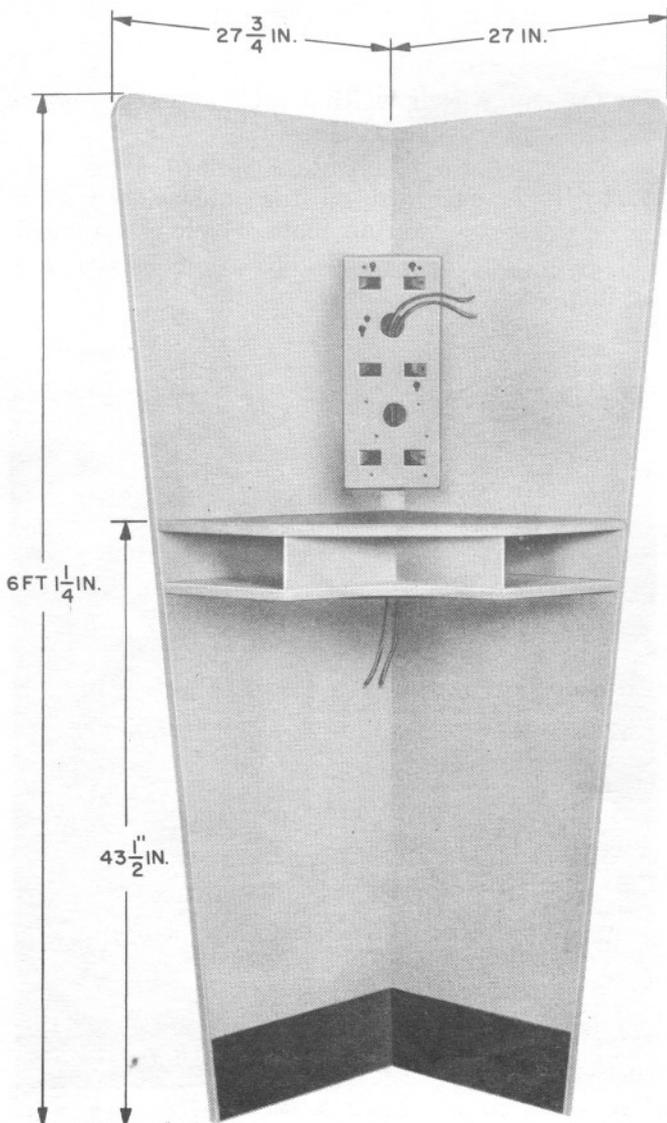

Fig. 5 - 20-type Shelf
7.01 The 20-type shelf combines a coin-collector mounting, directory compartments, shelf for writing, and a hinged plate for mounting subscriber set located under the writing shelf (see Fig. 5).